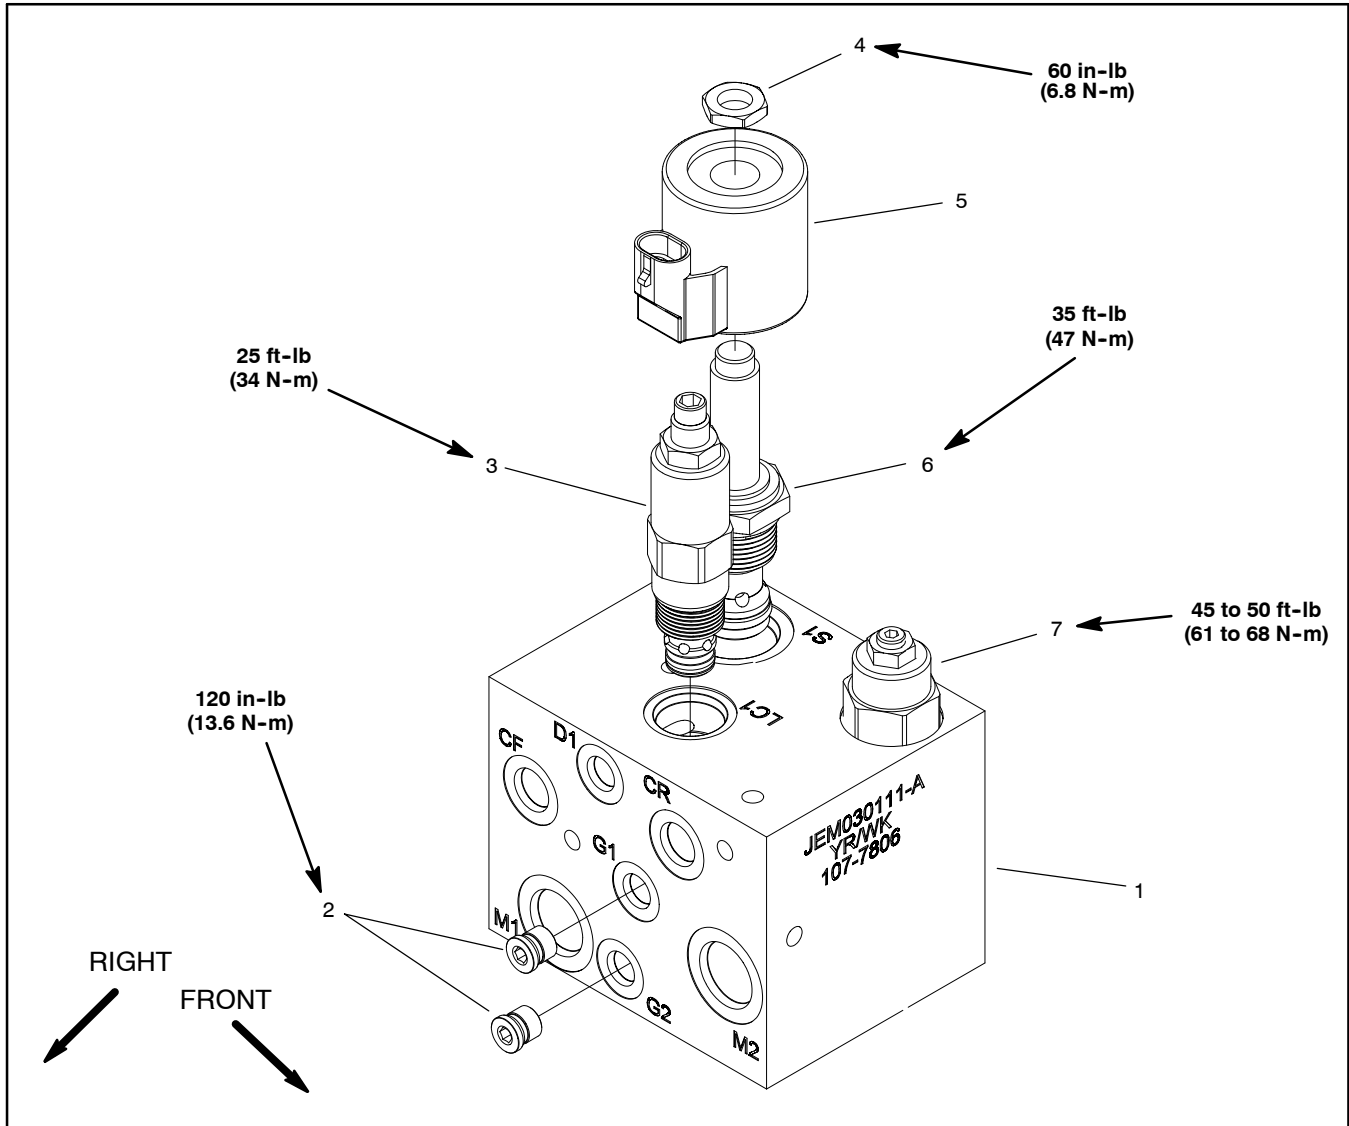

Figure 44
Cartridge Valve Service (Fig. 44)
C. Torque cartridge valve using a deep socket to valve identified in manifold illustration (Fig. 44).
D. If cartridge is solenoid operated, carefully install solenoid coil to the cartridge valve. Torque nut to valve identified in manifold illustration (Fig. 44).